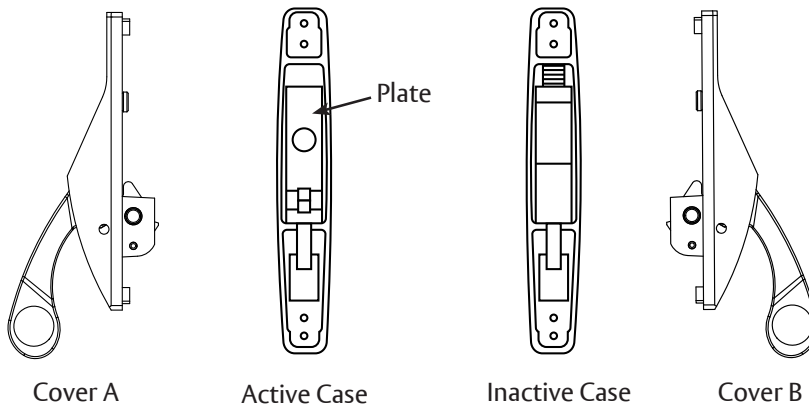

Figure 3
1. To change to opposite hand, hammer pin to opposite side of flange. (Figure 3)